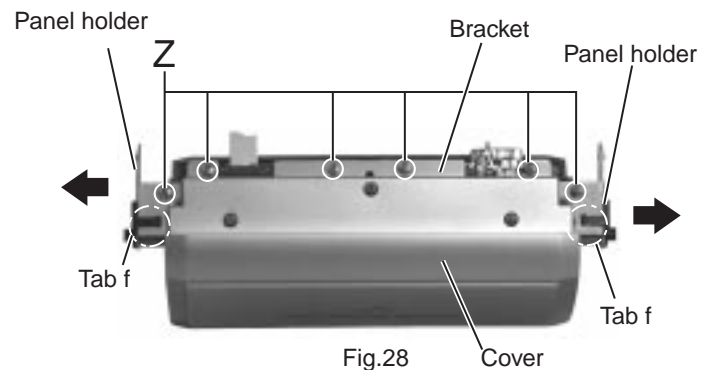

Fig.28
■ Removing the operation switch Board (See Fig.28 and 29)